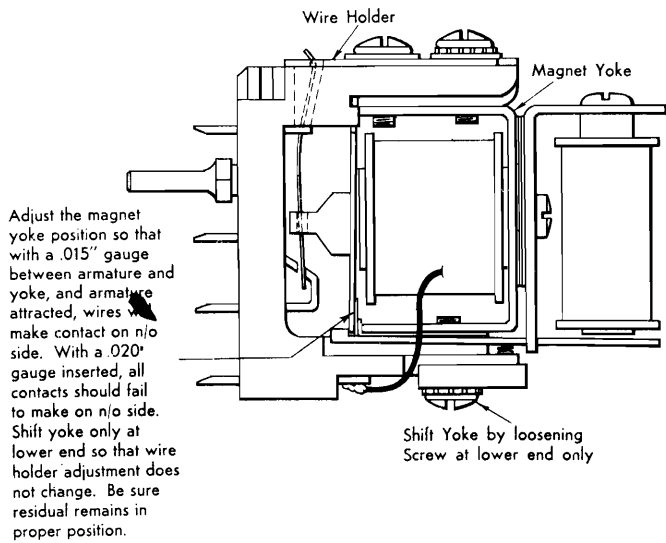

Figure 24. Adjustment 5
5. Figure 24. Adjust the magnet yoke assembly so that with a .015" thickness gauge between the armature and yoke at the free end and the armature attracted, all contact wires make contact on the normally open side. With a .020" gauge between armature and yoke and the armature attracted, none of the wires are to make contact on the normally open side. This adjustment is obtained by shifting the yoke assembly at the lower end only so that the wire holder adjustment does not change. If it is necessary to loosen the entire yoke to correct an out-of-parallel condition, the wire holder will have to be repositioned for proper wire tension. Be sure residual remains in proper position.